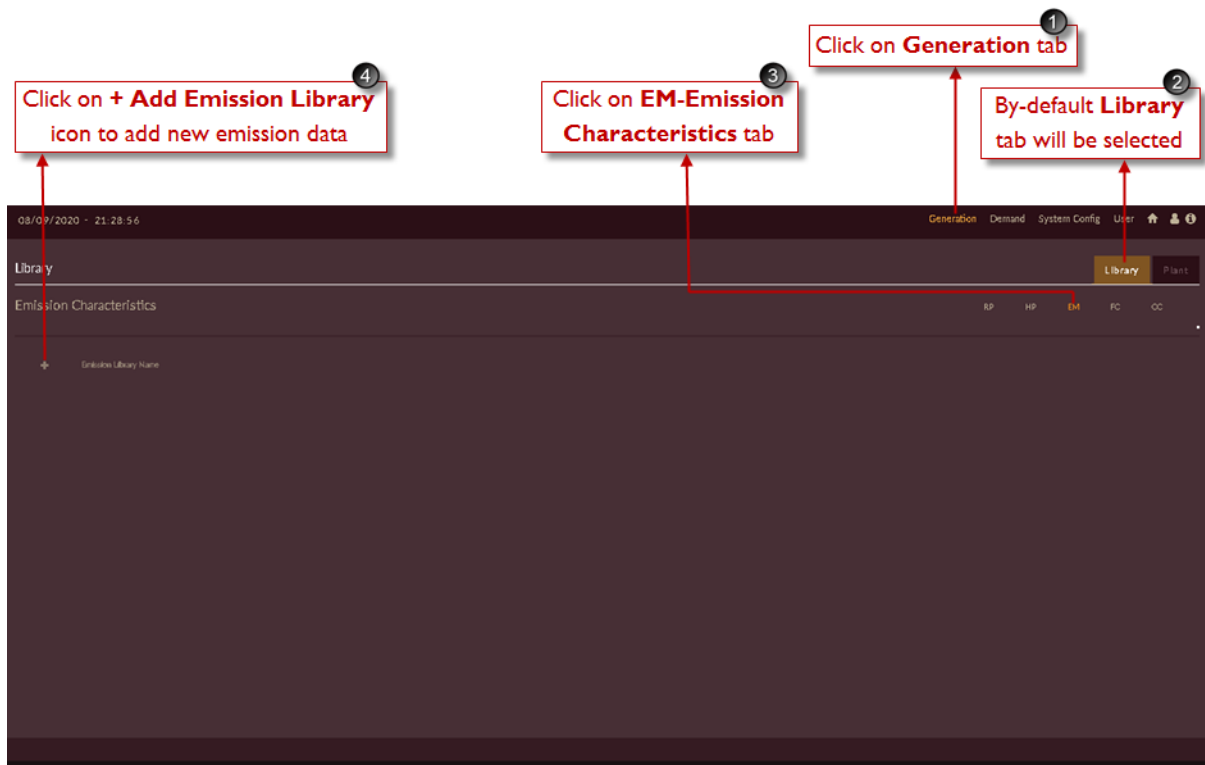

Figure 132. Steps to Add Emission Characteristics Library
1. Click on **Generation** tab. The **Generation** tab appears as shown in Figure 132.